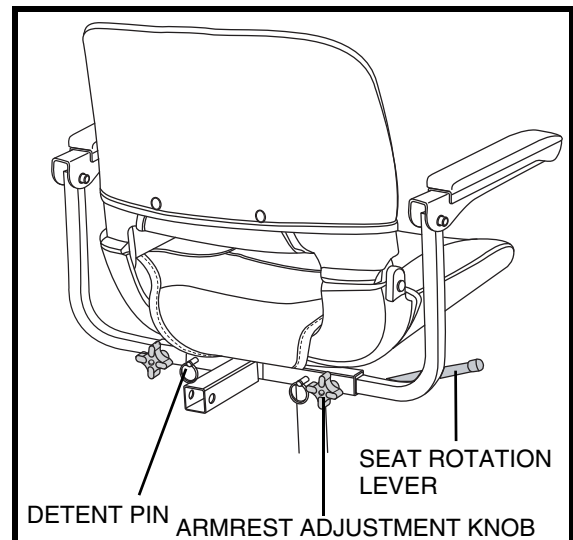

Figure 20. Seat Adjustments
The seat rotation lever, located on the right side of the seat base, secures the seat into several positions. **See figure 20.**
1. Loosen the armrest adjustment knobs. **See figure 20.**